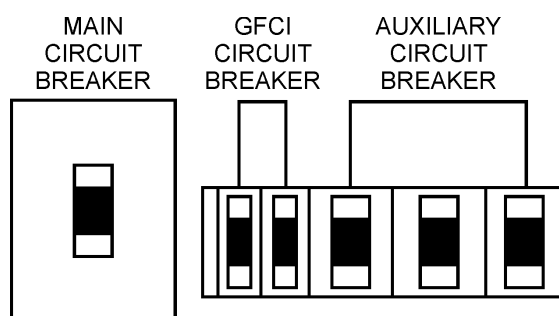

Figure 52. Main, Aux. and GFCI Circuit Breakers (OFF)
1. Place both the **MAIN, GFCI and LOAD** circuit breakers as shown in Figure 52 to the **OFF** position.